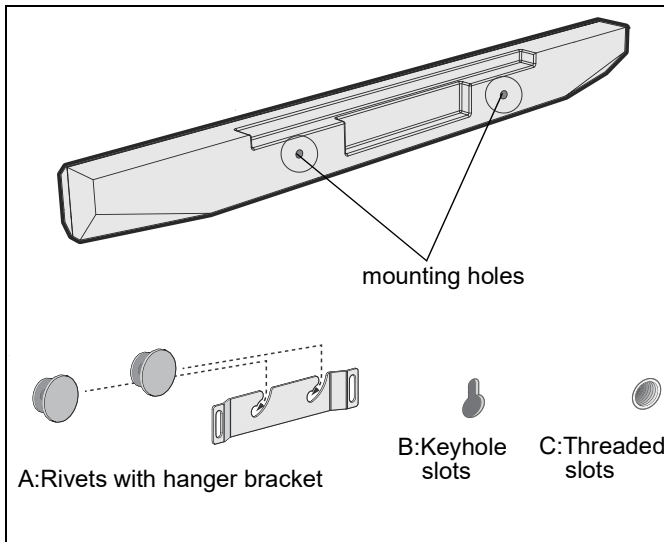

Figure 1
1. Look at the mounting holes on the back of soundbar to determine install method. (See Figure 1)